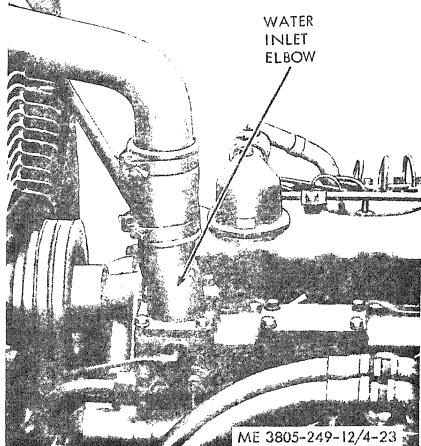

Figure 4-23. Water thermostat removal.
- (1) Drain the engine coolant to a level below the thermostat.
- (2) Remove three short bolts and lockwashers and one long bolt and lockwasher securing the water inlet elbow. Refer to figure 4-23.